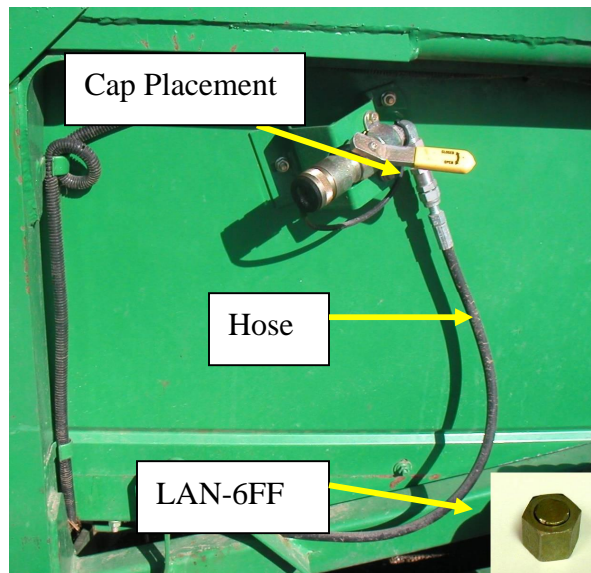

Figure 5
3. Disconnect hose from right hand hydraulic coupler. (See **Figure 5**)
4. Install Cap (***LAN-6FF**) onto right hand hydraulic coupler. (See **Figure 5**)